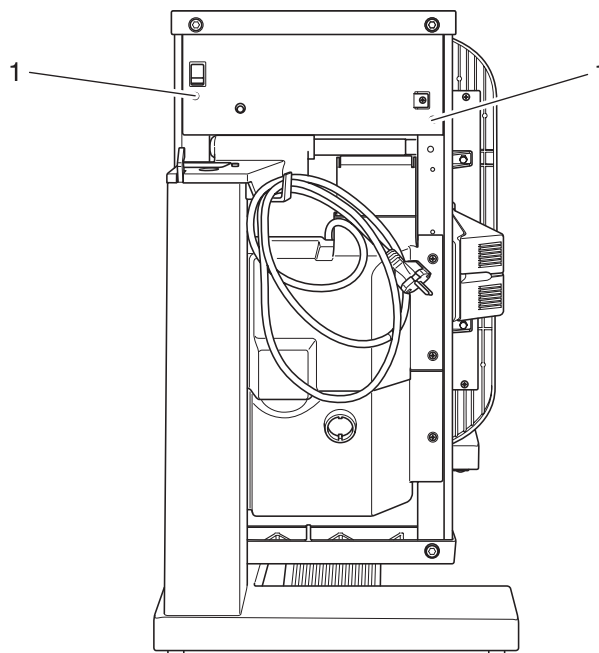

Fig. 21
- Remove screws 1 (fig. 21).
- Fit cover plate and secure it with screws 1 (fig. 21).